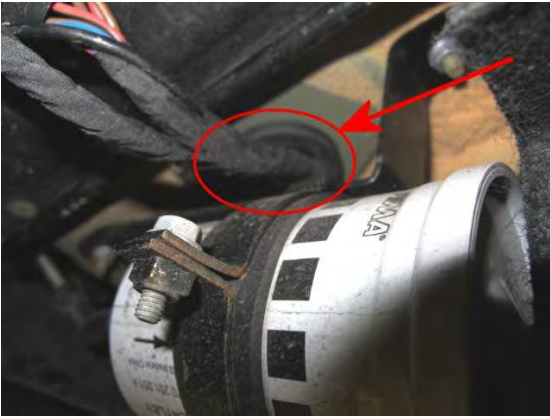

Figure 35
- Confirm the harness floor grommet is fitted correctly within the floor pan (Directly above fuel filter Figure 35)